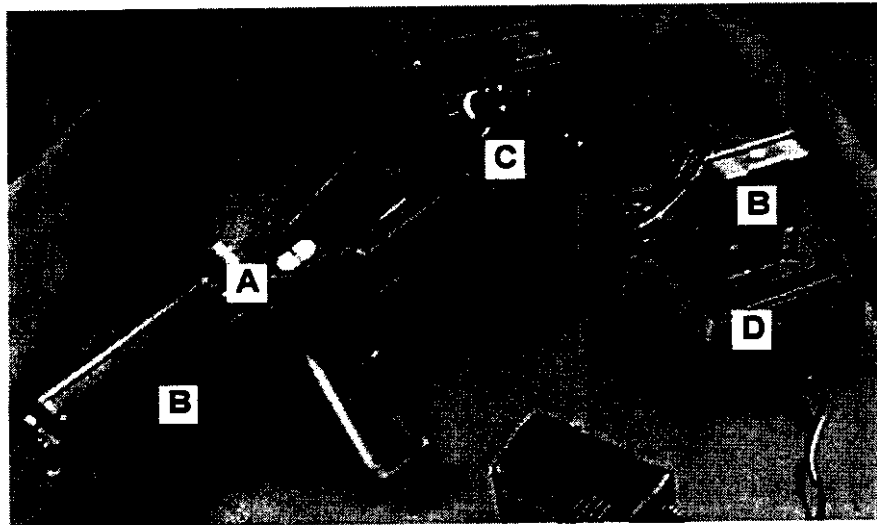

Figure 1 IT1110 Hand Held Reader Kit Showing (A) Hand Held Reader, (B) Two (2) Battery Packs, (C) Battery Eliminator, and (D) Battery Charger
The hand held reader kit consists of one (1) IT1110 Hand Held Reader, two (2) rechargeable battery packs, one (1) battery eliminator, and one (1) battery charger (Figure 1).